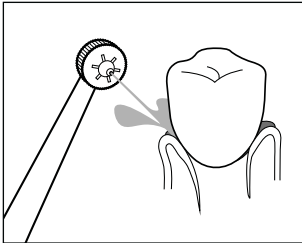
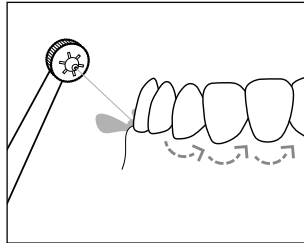

Fig. 8
Fig. 9
- ▶ To avoid splashes, do not switch on the hand unit ④ until it is in your mouth.
- ◆ Switch on the hand unit ④ by moving the On/Off switch for the water jet I/O ③ on the hand unit ④ to I.
- ◆ Direct the water jet at the gaps between your teeth and the edges of your teeth to clean them. Position the nozzle attachment ② so that the water jet can rinse the food remnants away from the gums (see Fig. 8). Move the nozzle attachment ② slowly along the edge of the teeth from gap to gap (see Fig. 9). Clean all the front and back sides of your teeth in this way.